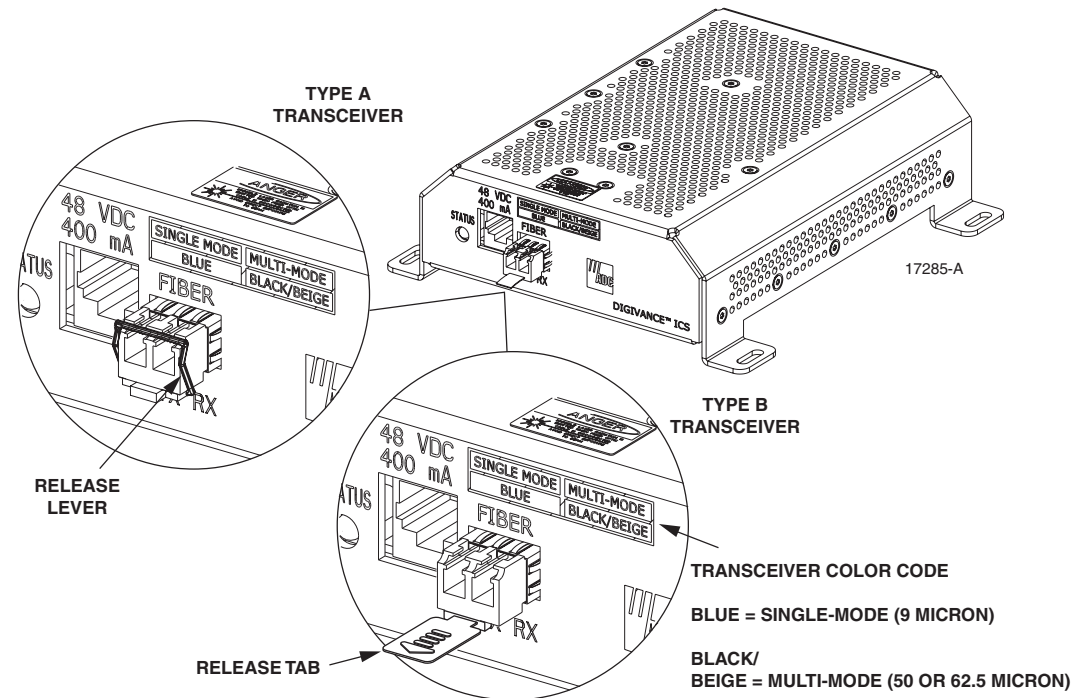

Figure 34. DRU Optical Transceiver Removal
5. Release the optical transceiver from the transceiver socket by pulling outward on the release lever (if type A) or release tab (if type B) as shown in Figure 34.
7. For replacement, select an optical transceiver that corresponds to the type of fiber (single- or multi-mode) used in the installation. The color of the transceiver corresponds to the fiber type (see Figure 34).
- ▶ **Note:** Two types of optical transceivers, type A and type B, are available. Both types provide the same functionality. On the type A optical transceiver, the release lever (see Figure 34) must be closed for installation.